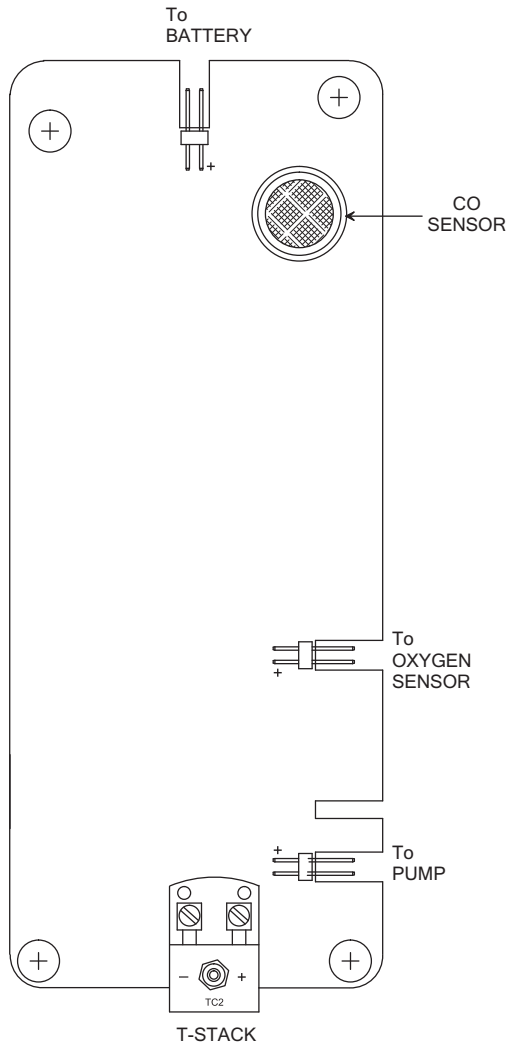

Figure 5-4. CO Sensor Location
2. Gently pull CO sensor out of its socket (see Figure 5-4).